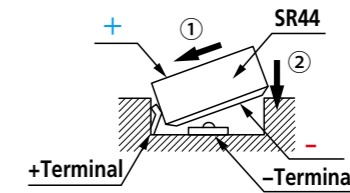

Fig. 1
5. Install an SR44 battery (Order No.938882) with the positive side of the battery uppermost. (Fig. 1)